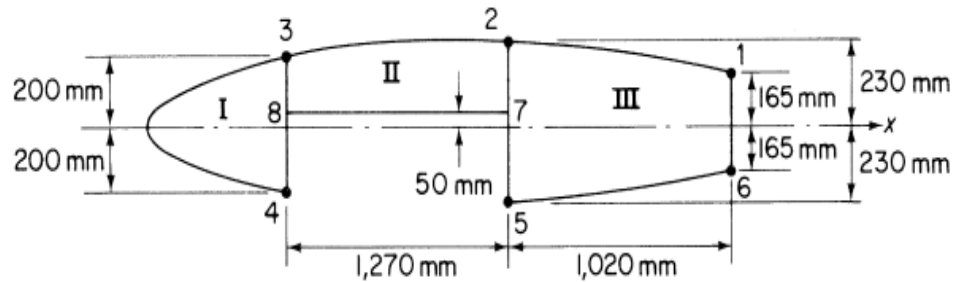

Fig.7
- b) The wing section shown in Fig.7 has been idealized such that the booms carry all the direct stresses. If the wing section is subjected to a bending moment of 300 kNm applied in a vertical plane, calculate the direct stresses in the booms: